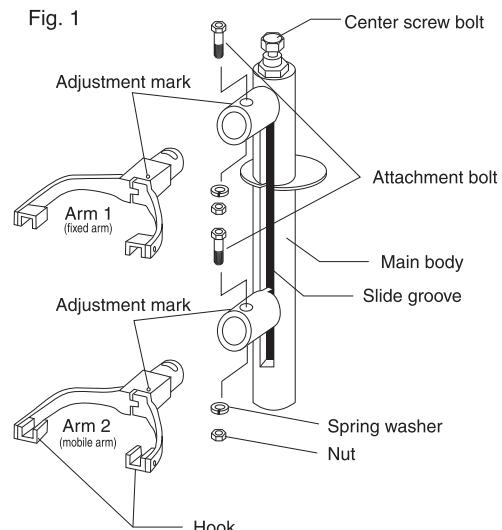

Fig. 2 Coil spring
- If excessive load is applied on spring compressor, breaking mechanism will work inside the drive of center screw bolts. (Breaking load: 1,300kgf.) (Fig.2)
- ① Attach to the diameter section of the spring when attaching the hook to the spring. (Fig. 2)
- ② Set to the widest position when considering the span of the hook for the upper and lower arms. (Distance between diagram 3A and B)